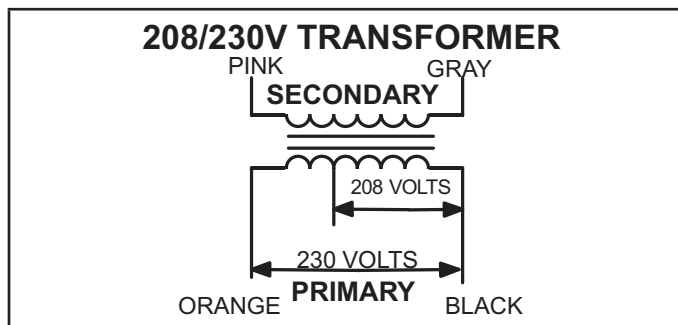

FIGURE 4
The 208/230 (Y) voltage transformers use two primary voltage taps as shown in figure 4, while the 460 (G) voltage transformer use a single primary voltage tap. T43 is used for units with hot gas reheat for additional 24VAC